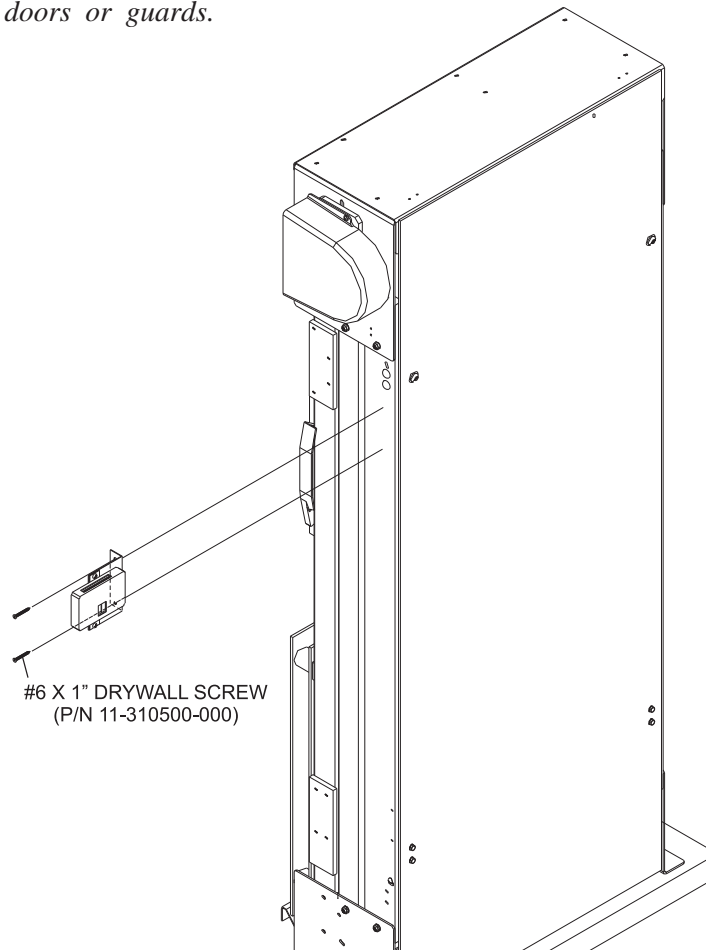

Figure 9
- Mount the consolidated rear display and bracket assembly to the elevator using the supplied #6 X 1" drywall screws (P/N 11-310500-000). Refer to Figure 9.